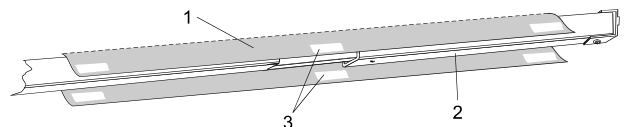

Fig. 20
On the under side of the roof, you will find two or three wind tie-downs that will fasten the roof to the rafters. Wrap these tie-downs (1) around the corresponding rafter (2) and fasten with the hook and loop closures at each end and in the middle of the tie-down (see Fig. 20).